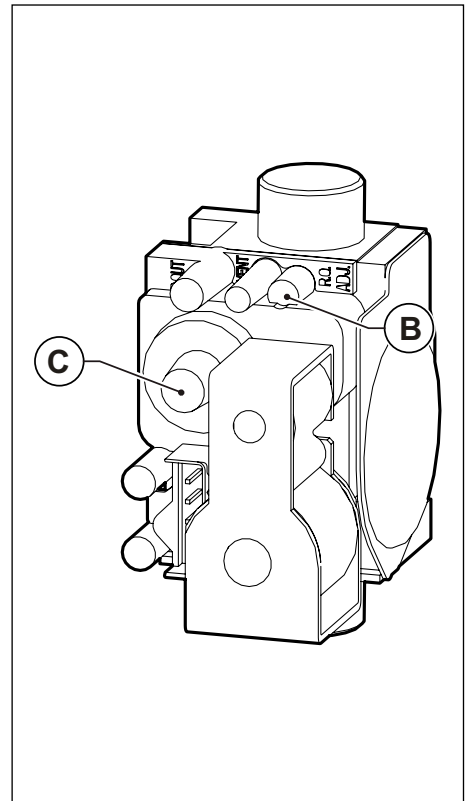

Fig. 40 Adjusting CO2 value
- Set flue gas CO2 content by turning the ratio adjuster **B** (see Fig. 40 Adjusting CO2 value) and ensure that reading falls within the limits of Tab. 21 Flue CO2 content. Let boiler flue cleaning function on and continue with the next point "Minimum heating output adjustment" .
- Set flue gas CO2 content by turning the offset control **C** (see Fig. 40 Adjusting CO2 value) and ensure that reading falls within the limits of Tab. 21 Flue CO2 content.